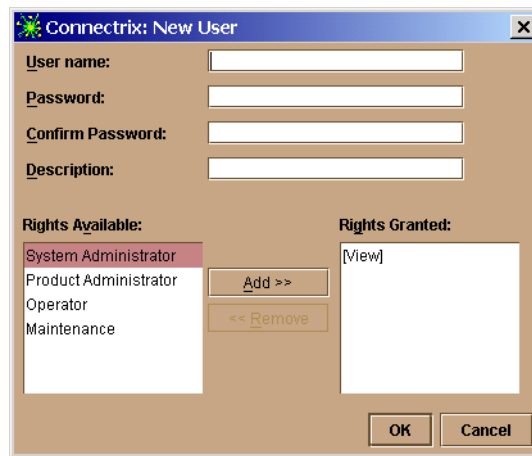

Figure 2-3 New User Dialog Box
Use the New User dialog box (Figure 2-3) to create new users for the Connectrix Manager. Assign a user name, a password, and certain permissions (*rights*) to each user configured.
2. Click **New**. This displays the New User dialog box (Figure 2-3).